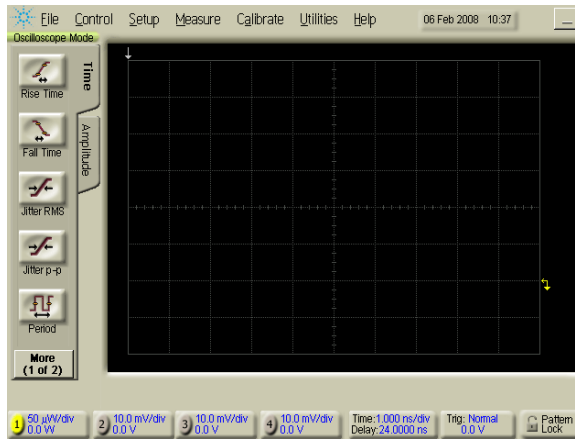

Figure 1-11. The 86100C Display
- 9 Click Next. The setup will take up to a minute to complete and to automatically restart the instrument. In about one or two minutes, you should see the 86100C screen screen, as shown in the Figure 1-11.